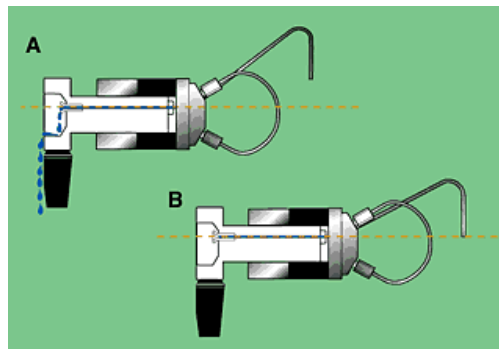

Figure 2. Needle port level compared to the level of vent line outlet:
3. If fluid leaks from the needle port and/or vent lines but eventually stops, the cause is most likely siphoning and not a leak. Siphoning occurs if the vent lines are lower or higher than the needle port. Adjust the vent line (s) so that the outlet is at the same horizontal level as the needle port to prevent siphoning. See Figure 2.